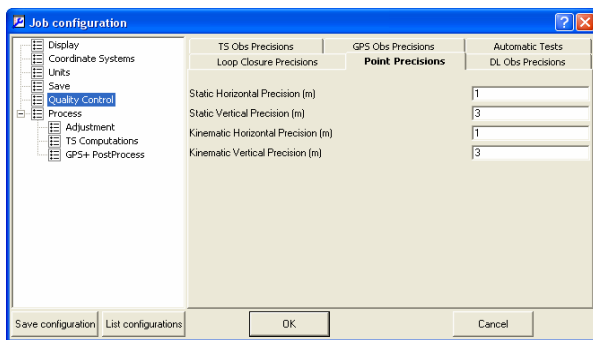

Figure 2-30. Job Configuration – Point Precisions
- The *Point Precisions* tab sets horizontal and vertical precisions for the coordinates of static and kinematic points (Figure 2-30). If horizontal (Std Dev Hz) and vertical (Std Dev u) residuals for a point are worse than the value in the settings in this tab, the point is highlighted in red in the *Points* tab, Map view, and Reports.